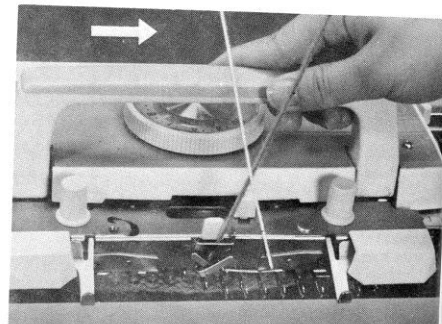

Fig.102
- Move the carriage from left to right. (Fig.102)